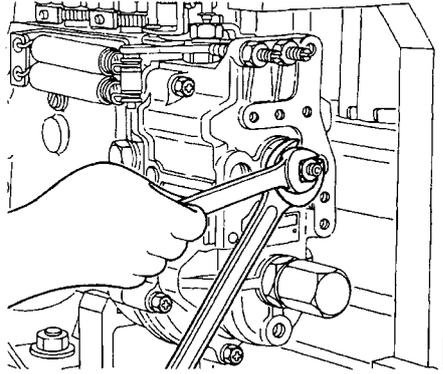

Figure 121 Governor Shaft Spring Adjustment
- r. Position and lock the control lever in the idling position, set the pump speed to 630 , turn the adjusting nut on the governor shaft (Figure 121) to bring the control rack to 6.6 mm and tighten the locknut to 10 to 14 N.m (7 to 10 lbf.ft).